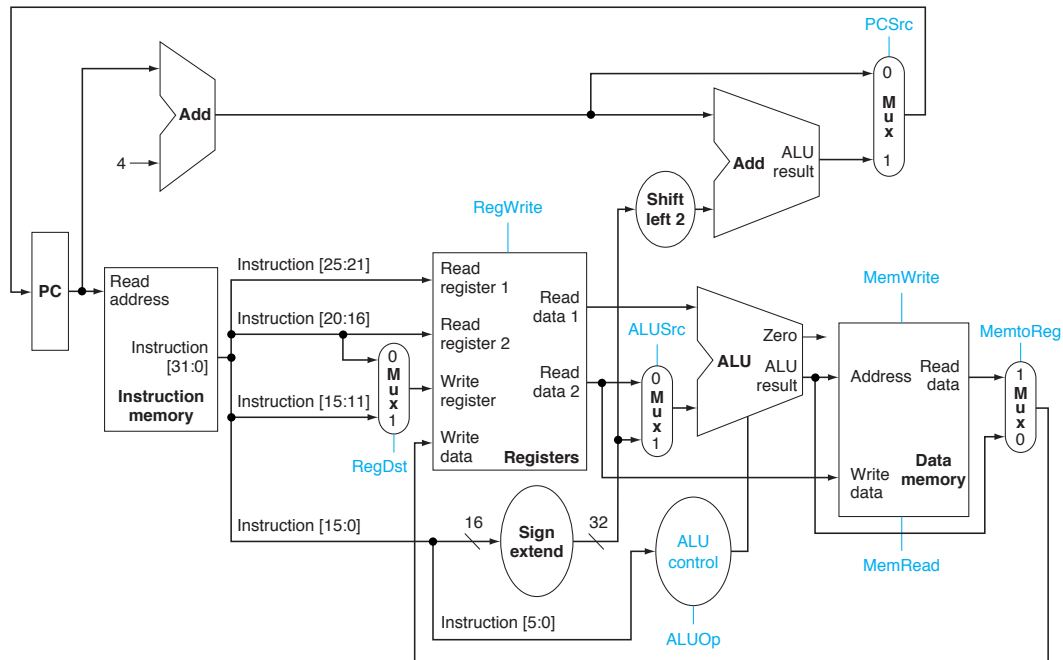

Fig. 2: ALU Datapath
9. How would you extend the datapath in Figure 2 to implement the SLL and SRL instructions. **Note:** The ALU needs the first port to contain the value to shift and the second to contain the amount to shift by. Pay special attention to the data path for these values.